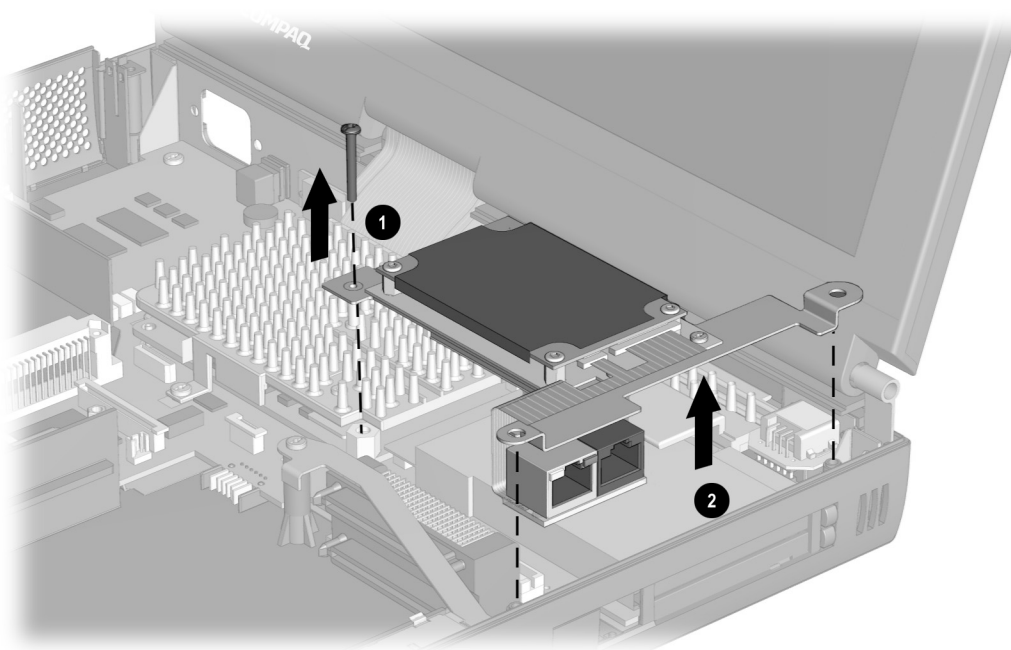

Figure 5-42. Removing the Mini PCI Riser Board
6. Remove the screw that secures the mini PCI riser board to the base assembly ❶ (Figure 5-42).
8. Remove the mini PCI riser board ❷.